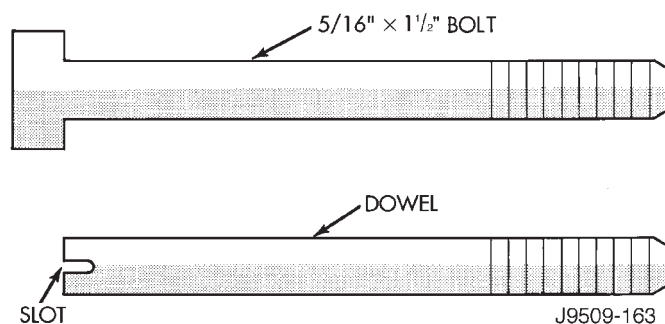

Fig. 37 Fabrication of Alignment Dowels
- (1) Clean the block and pan gasket surfaces.
- (2) Trim or remove excess sealant film in the rear main cap oil pan gasket groove. **DO NOT remove the sealant inside the rear main cap slots.**
- (3) If present, trim excess sealant from inside the engine.
- (4) Fabricate 4 alignment dowels from 5/16 x 1 1/2 inch bolts. Cut the head off the bolts and cut a slot into the top of the dowel. This will allow easier installation and removal with a screwdriver (Fig. 37).